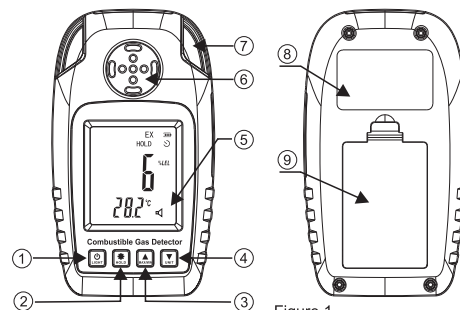

Figure 1
F. Name of Each Component (Figure 1)